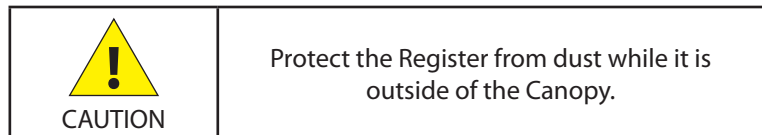

Figure 4. Canopy, Register Removal
Remove the six (6) screws holding the Canopy to the mounting plate and discard, Figure 4. One of the screws has a seal attached, remove it prior to removing that screw. Lift off the canopy slowly, straight up to prevent damage to the register.